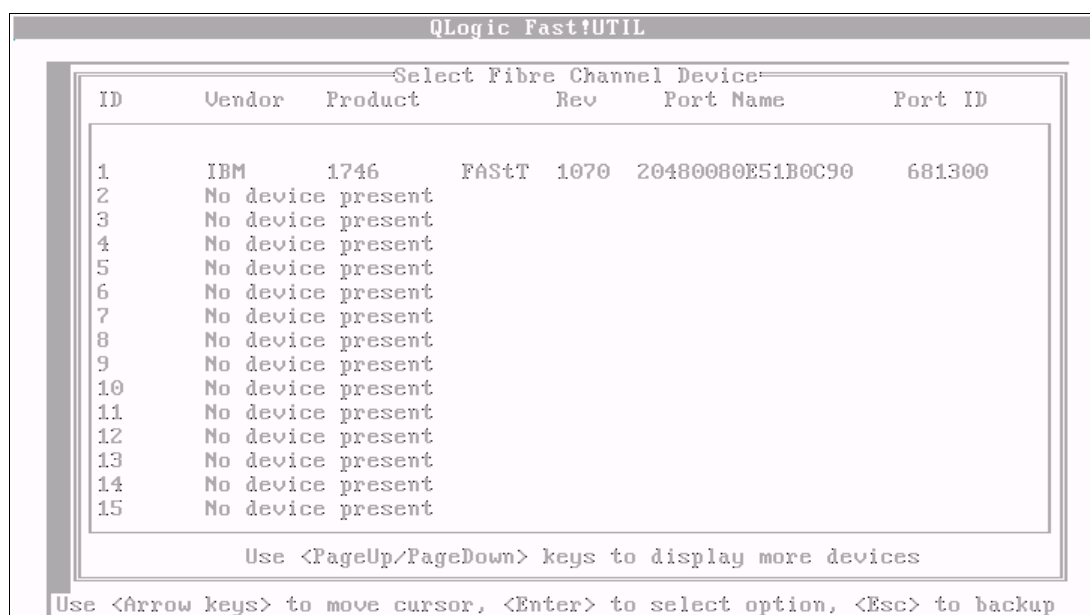

Figure 22-4 Scanning for Fiber Devices
5. Select **Scan Fibre Devices**, and press Enter. Figure 22-4 shows the resulting output.